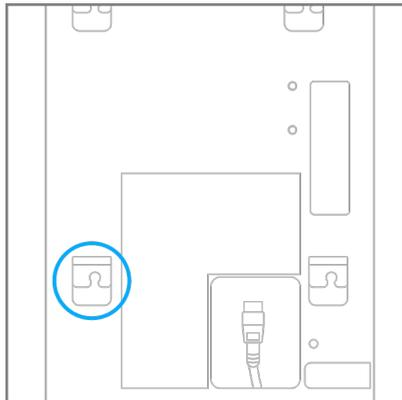

Figure 18.
Step 7: Install and tighten the final screw in the lower left corner in accordance with the anchors being used (Figure 18.).